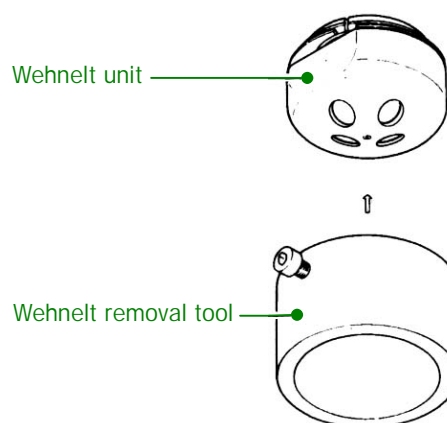

Fig. 6.1
3. Remove the Wehnelt unit with the Wehnelt unit removal tool (Fig. 6.1).